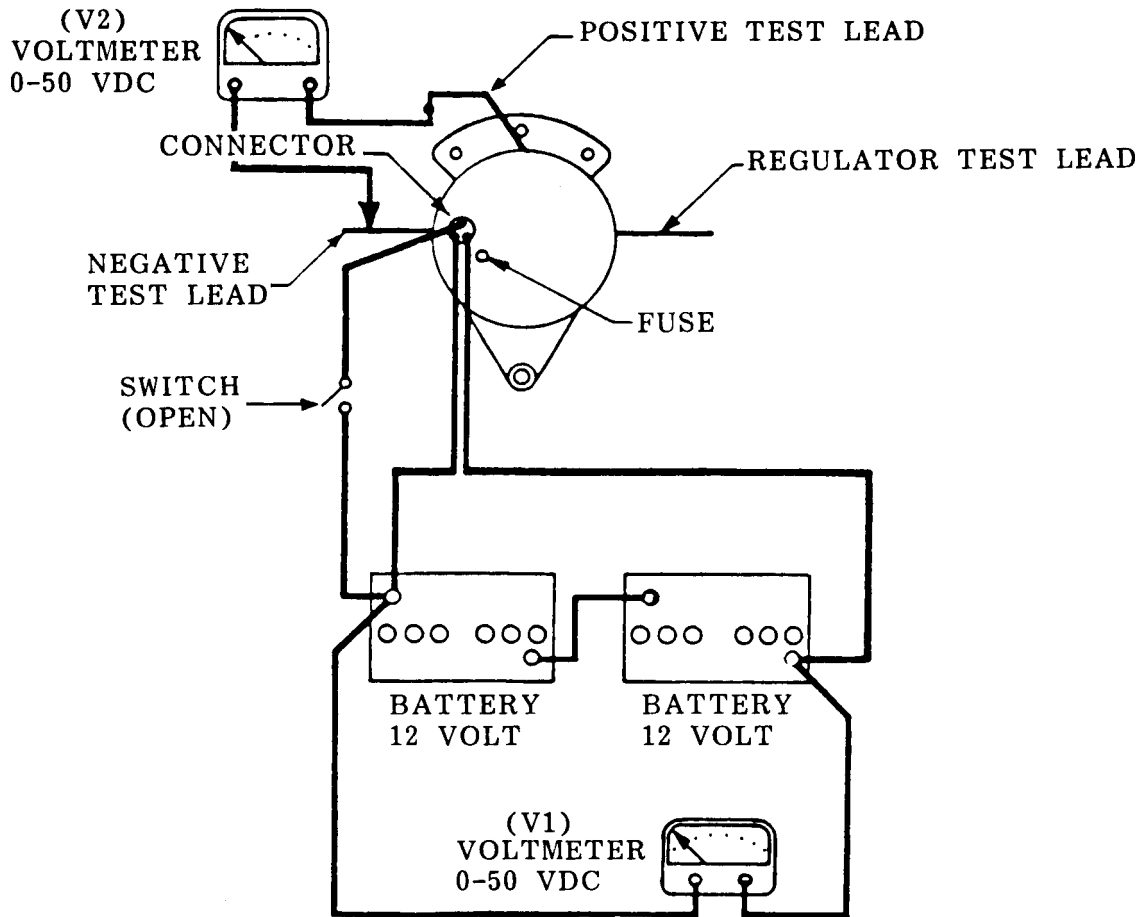
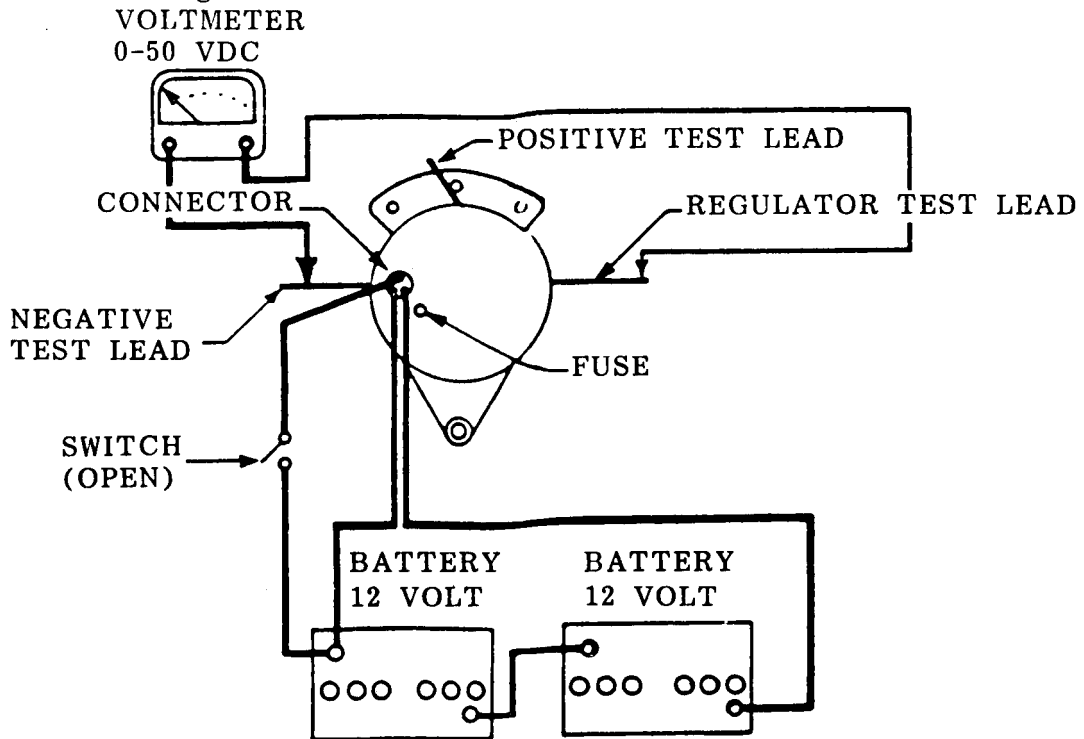

Figure 7-10. Total Circuit Voltage Test.
Figure 7-11. Excitation Voltage Tests.
- (c) If voltage is greater than zero, but below voltage V1 figure 7-10 check for poor circuit conditions between battery positive terminal and alternator positive output terminal.
- (e) If voltage indicated is equal to voltage V1, test alternator negative output circuit as directed in step (5) below.
- (5) Test alternator output circuit as follows:
- (a) Check voltage V4 as indicated in figures 7-10 and 7-12.
- (b) If voltage is below voltage at V1 (fig. 7-10), check for inadequate circuit conditions between battery negative terminal and alternator negative output terminal.
- (6) Conduct excitation voltage test as follows:
- (a) With voltmeter connected as in figure 7-11, close switch.
- (c) If voltmeter indicates zero volts, test voltage regulator as directed in step (7) below.
- (d) If voltmeter indication is greater than 3.7 Vdc, test for open circuit of alternator field (rotor) as directed in step (8) below.